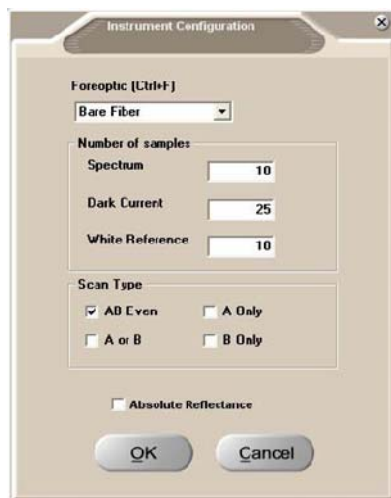

Figure 3-25: Set averaging
- Step 2 In the “Instrument Configuration” settings box, set the number of samples to average for the *sample spectrum*, *dark current* and *white reference* (Figure 3-25).
Absolute reflectance installs the white reference panel reflectance factors for inclusion in the real-time reflectance calculation. Absolute reflectance can also be activated from this “Instrument Configuration” settings box (Figure 3-25).